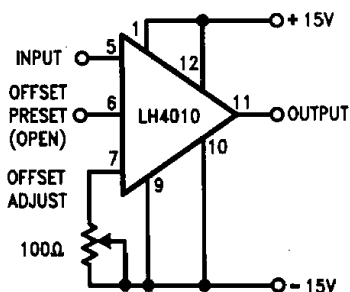

FIGURE 1. Offset Zero Adjust for LH4010
**Offset Voltage Adjustment:** Both the LH4010 and LH4010C offset voltages have been actively trimmed by laser to meet guaranteed specifications when the offset preset pin is shorted to the offset adjust pin. This pre-calibration allows the devices to be used in most DC or AC applications without individually offset nulling each device. If offset null is desirable, it is simply obtained by leaving the offset preset pin open and connecting a trim pot of 100Ω between the offset adjust pin and  $V^-$  as illustrated in Figure 1.